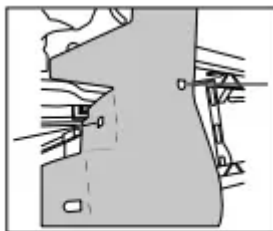

Figure: 1
■ Attachment 1: Locate the slit on the side shield and attach it to the hook on the side of the dishwasher. (See figure 1)